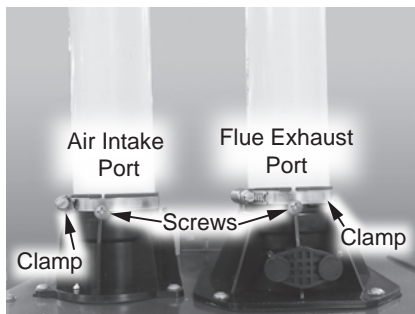

Figure 211 - Flue exhaust port and intake air port location
2 Locate the flue exhaust port and intake air port. See Figure 211.
3 Remove the two (2) screws securing the intake air and exhaust piping to the ports. Place the screws aside in a safe place for reinstallation. See Figure 211.
9 Reinstall the two (2) screws removed in **Step 3**. See Figure 211.